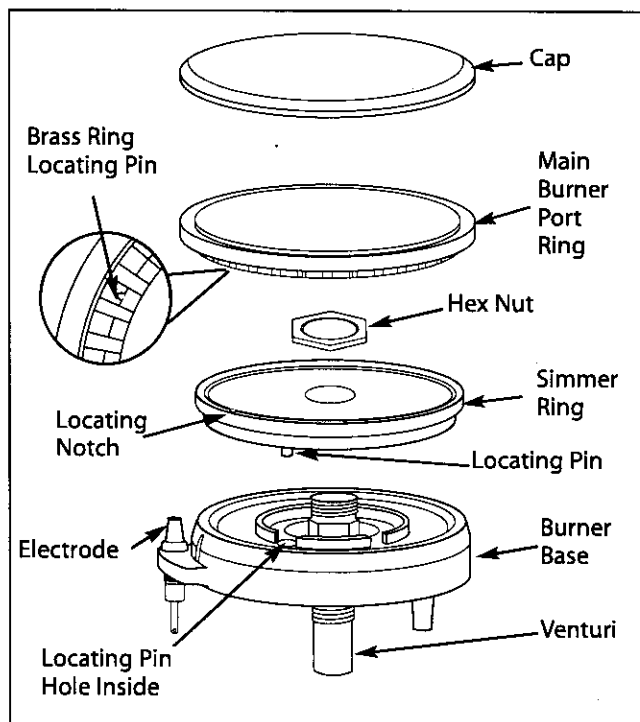

Fig. 14
For proper lighting and performance keep the burners clean. It is necessary to clean the burners if they do not light even though the igniter clicks, if there has been a severe boil over, or when the flame does not burn blue. Be certain all burner knobs are in the off position before attempting to clean the burners. The burners have been designed for ease in cleaning. When the grates and burners are cool, remove the grate. The burner cap and the brass port ring can easily be lifted off. Wash these parts in hot soapy water, rinse and dry thoroughly. The burner caps are porcelain enamel, follow the directions on the previous page that were given for the burner grates. A bristle brush can be used to clean out the toothed burner ports, if necessary. Disassembly of the simmer ring is not recommended, however, it may become necessary to do so if the ports remain clogged after normal cleaning. If it is necessary to disassemble the simmer ring from the base, remove the hex nut at the top of the simmer ring. Clean the simmer ring with hot soapy water using a soft wire or plastic bristle brush then dry thoroughly. Re-assemble the parts using the hex nut. After cleaning, it is important to make sure the locating pin on the bottom side of the simmer ring is properly aligned with the corresponding hole in the base and that the locating pin (see insert) in the bottom side of the brass port ring is properly aligned with the locating notch on the top side of the simmer ring. Incorrect alignment will produce a potentially dangerous flame and poor burner performance (see fig. 14).
- Is the two piece burner put together correctly? (See page 27, fig. 14)
- Is the burner head assembly aligned correctly? (See page 27, fig. 14)